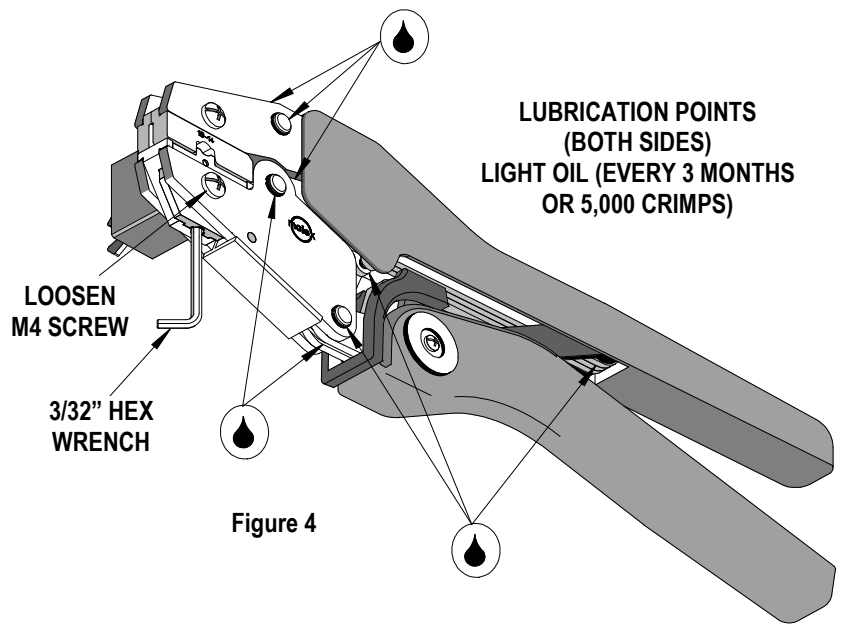

Figure 4
3. Make certain all pins, pivot points and bearing surfaces are protected with a thin coat of high-quality machine oil. Do not oil excessively. This tool was engineered for durability, but like any other equipment, it needs cleaning and lubrication for a maximum service life of trouble-free crimping. Light oil (such as 30 weight automotive oil) used at the oil points shown in Figure 4 every 5,000 crimps or 3 months will significantly enhance the tool life and ensure a stable calibration.